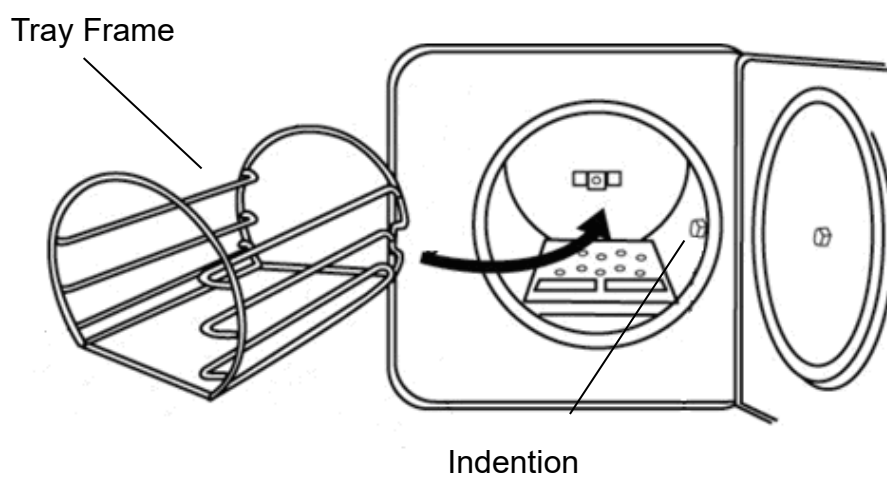

Figure 30
D. Install the tray frame as Figure 30 (optional accessory).
⚠ Caution: The frame should be installed as Figure 30 below. The indentation of the frame will pass the bushing in the chamber.